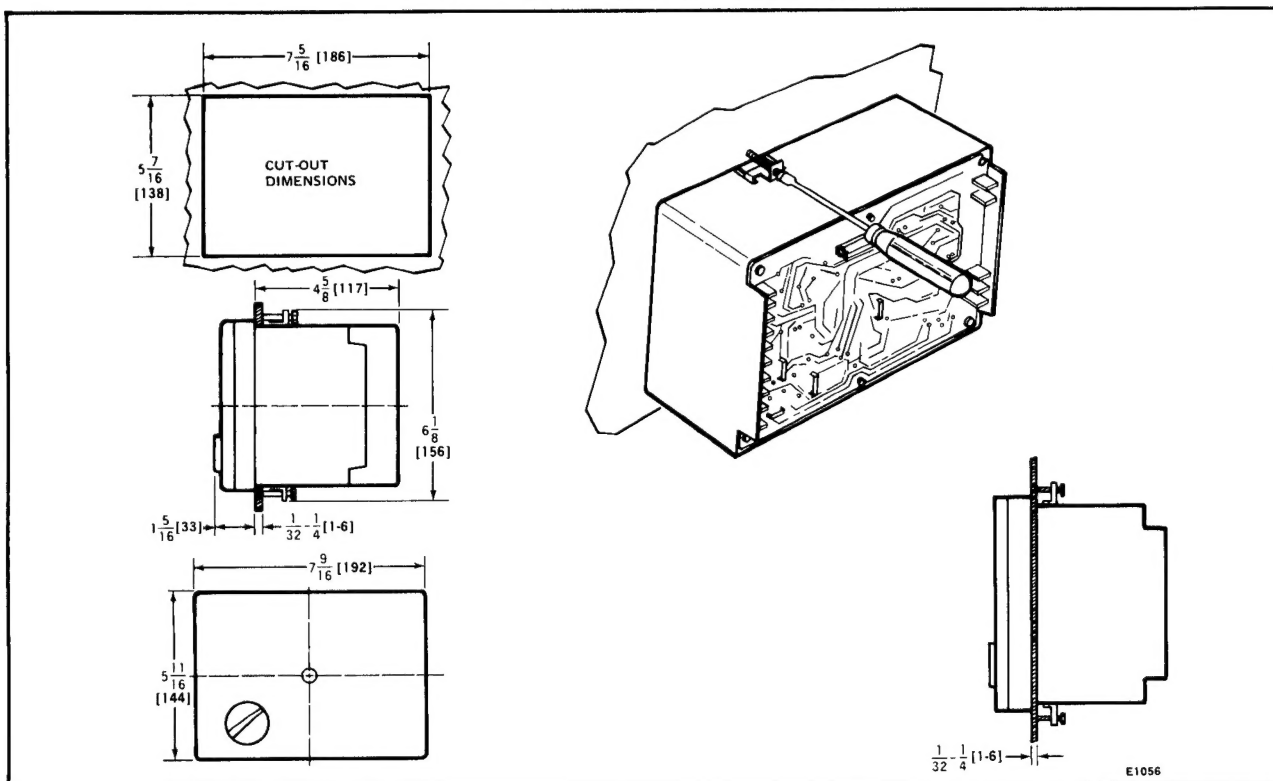

FIG. 5—W964F FLUSH MOUNTING.
3. For surface mounting, attach subbase to wall using two No. 10 screws provided. For flush mounting, cut panel hole (Fig. 5) and mount Aquatrol using two special clamps provided.